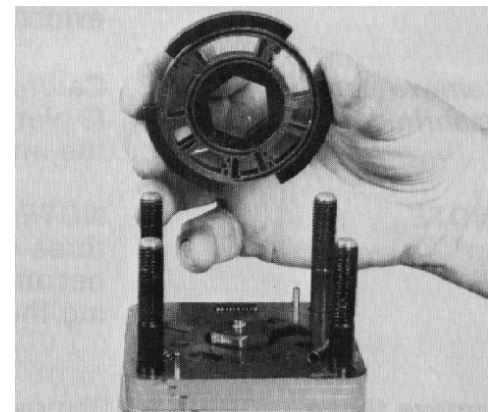

Figure 34
12. Remove the valve plate by lifting it from the isolation manifold (Fig. 34).